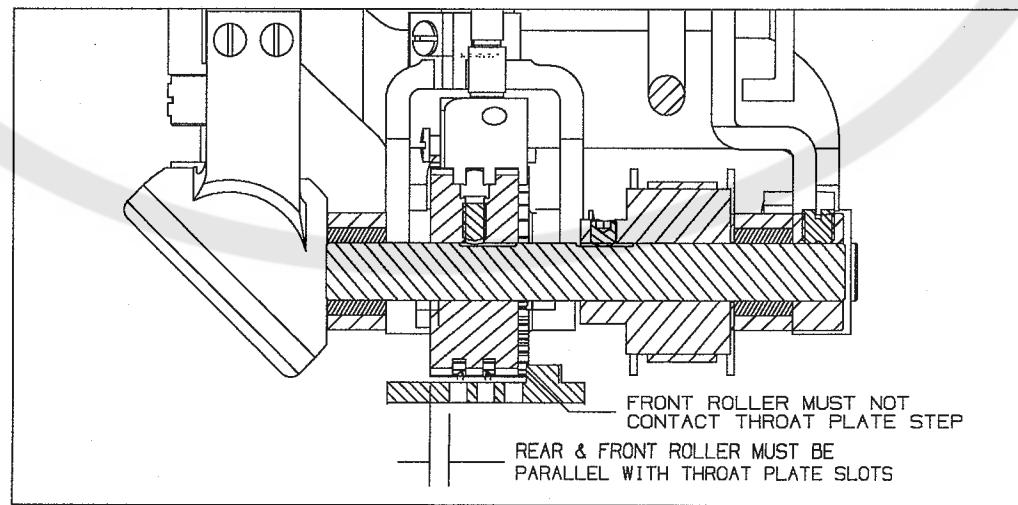

Fig. 2
2. Rear roller and front roller must be parallel to slots on throat plate, see (Fig. 2).